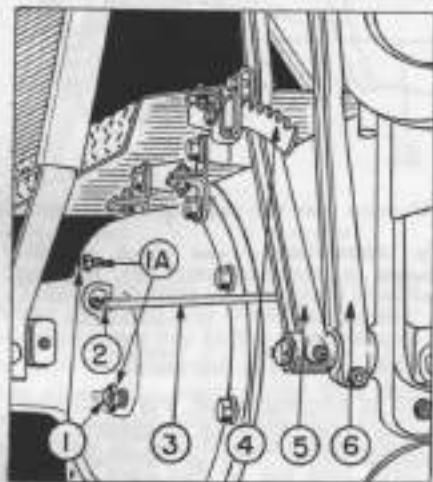

Fig. MH382—Single disc brake controls—Models 20, 20K, 21 and 22.
282. Jack up right or left rear wheel and loosen locknuts on the three brake adjusting bolts (1A—Fig. MH382). Turn each bolt in separately until a slight drag is felt when turning wheel by hand, and then back off adjusting bolt until wheel turns free. Then back off each bolt an additional one-quarter turn and tighten locknuts. Adjust opposite brake using same procedure. If brake pedal travel is unequal after brake adjustment, equalize by adjusting pull rods (3).